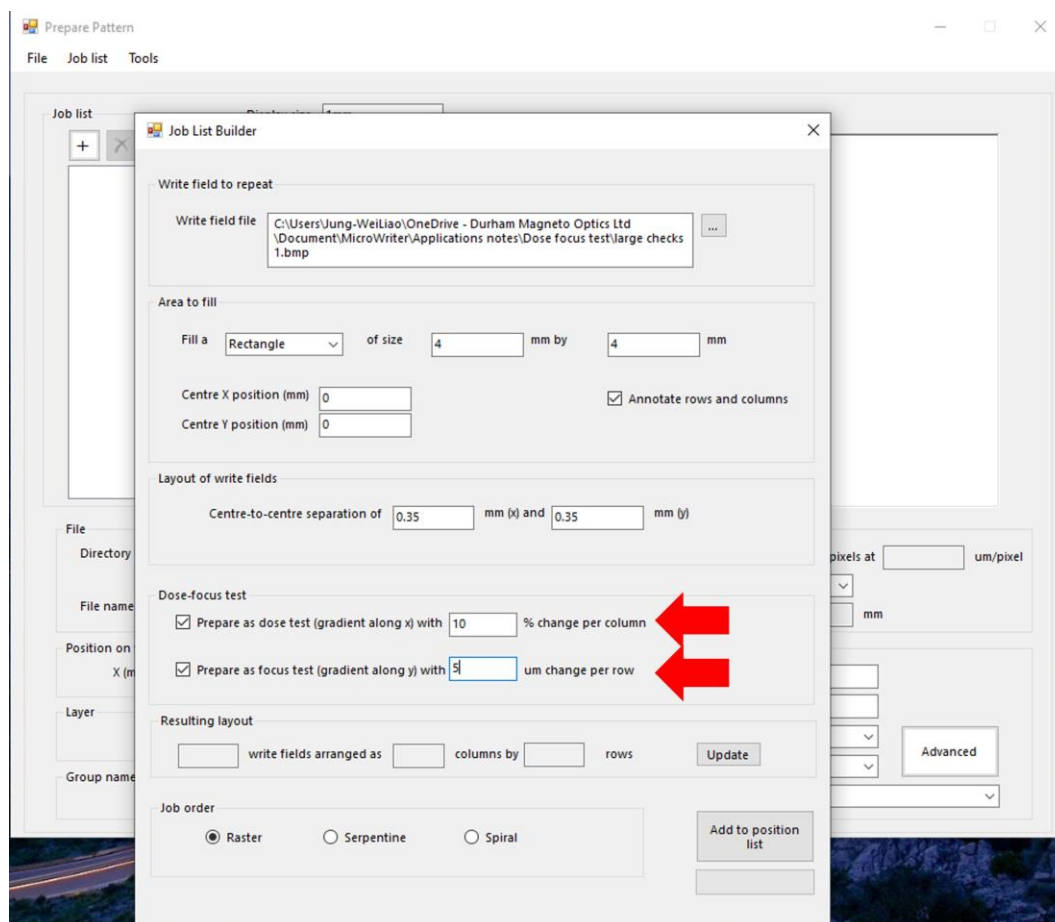

Figure 7 Enter the dose change and focus change for the dose focus test.
- i. Check the “Prepare as dose test ...” option (Figure 7). Enter the dose change (in a unit of %) per column. It is suggested to start with 10%.
- j. Check the “Prepare as focus test ...” option (Figure 7). Enter the focus change (in a unit of μm) per row.